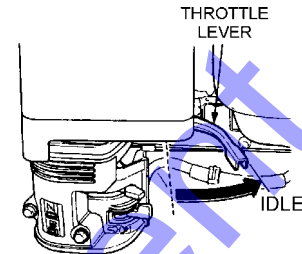

Figure 16. Throttle Lever (Idle)
1. Move the throttle lever to the **IDLE** position (See Figure 16) and run the engine for three minutes at low speed.